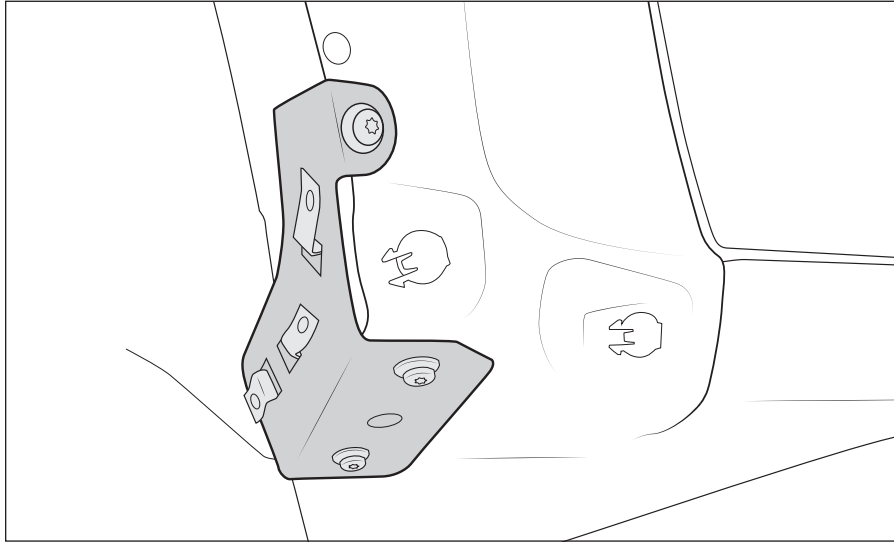

Figure 5
2. Secure into place with supplied hardware (fig. 5).